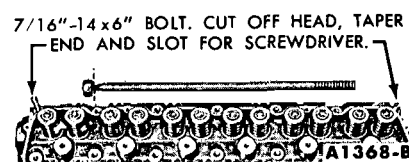

FIG. 23—Cylinder Head Guide Studs
1. Clean the head and block gasket surfaces. (Refer to Part 8-1, Section 3, for cleaning and inspection procedures.) If the cylinder head was removed for a gasket change, check the flatness of the cylinder head and block. Install guide studs at each end of the cylinder block (Fig. 23).